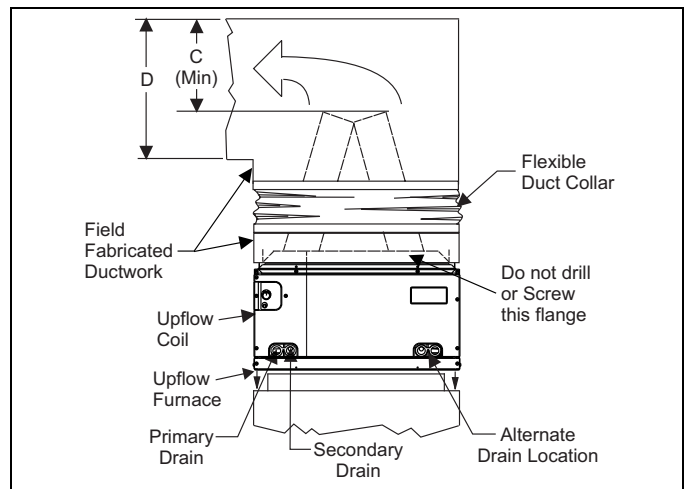

FIGURE 6: PC Series Upflow Coil Installation
Dimension "C" should be at least 2/3 of dimension "D". See Figure 6
1. Position the coil casing over the furnace opening as shown in Figure 6.
Do not drill any holes or drive any screws into the front duct flange on the coil in order to prevent damaging coil tubing. See Figure 6